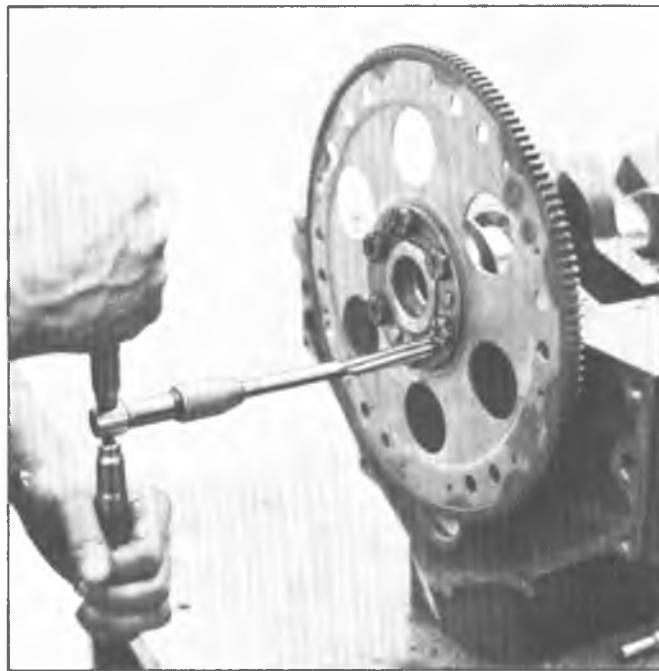

Fig. 31L—Reaming Flywheel Dowel Pin Holes
- When installing the original flywheel, ream the dowel pin holes with Tool J-22808-2. When installing a new flywheel, first ream the dowel pin holes with Tool J-22808-2 and then finish reaming them with Tool J-22808-1 (fig. 31L).